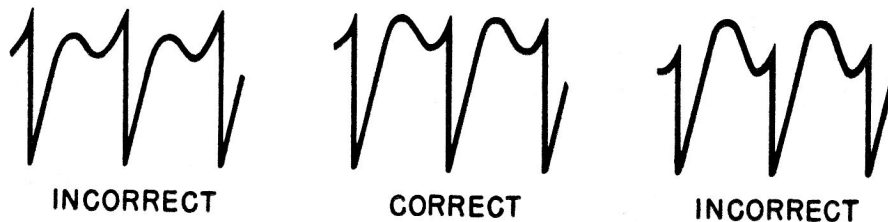

Figure 13
Proper adjustment of the Horizontal Stabilizing Coil is very important. With an oscilloscope connected to the junction between the horizontal oscillator transformer (item 13) and the Horizontal stabilizing coil (item 14), and ground, adjust the stabilizing coil for the correct waveform, Figure 13.